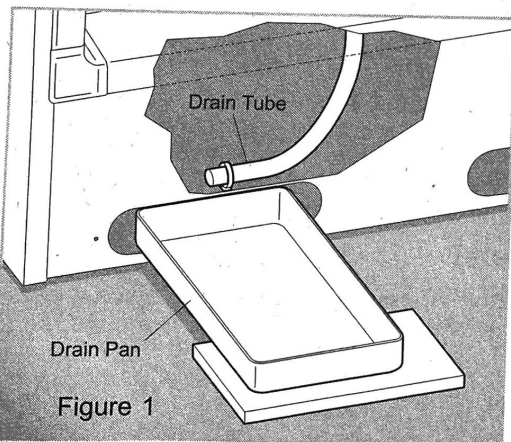

Figure 1
- **On upright models** with a defrost drain (Figure 1), remove drain plug on the inside floor of the freezer by pulling straight out. To access external drain tube on models with a near the left center under the freezer. Place a shallow pan under the drain tube. Defrost water will drain out. Check pan occasionally so water does not overflow. A $\frac{1}{2}$ inch garden hose adapter can be used to drain the freezer directly into a floor drain. If your model is not equipped with an adapter, one can be purchased at most hardware stores. Replace the drain plug when defrosting and cleaning are completed. If the drain is left open, warm air may enter freezer.